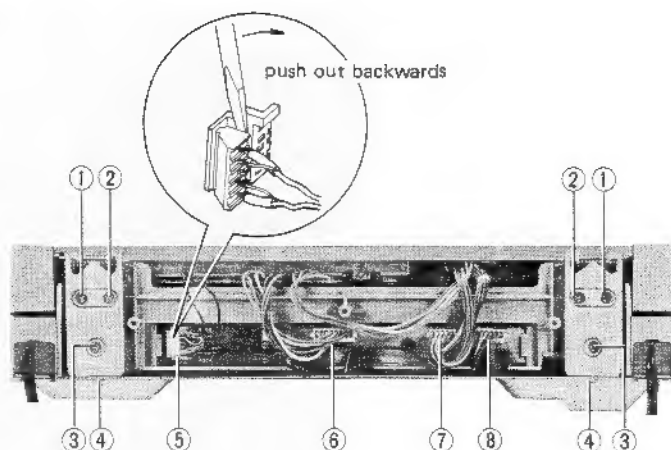

Fig. 5
### 5-(1) Removal of surface cover (Fig. 5)
2. Remove the respective securing screws ① - ④ of the right and left hinges.